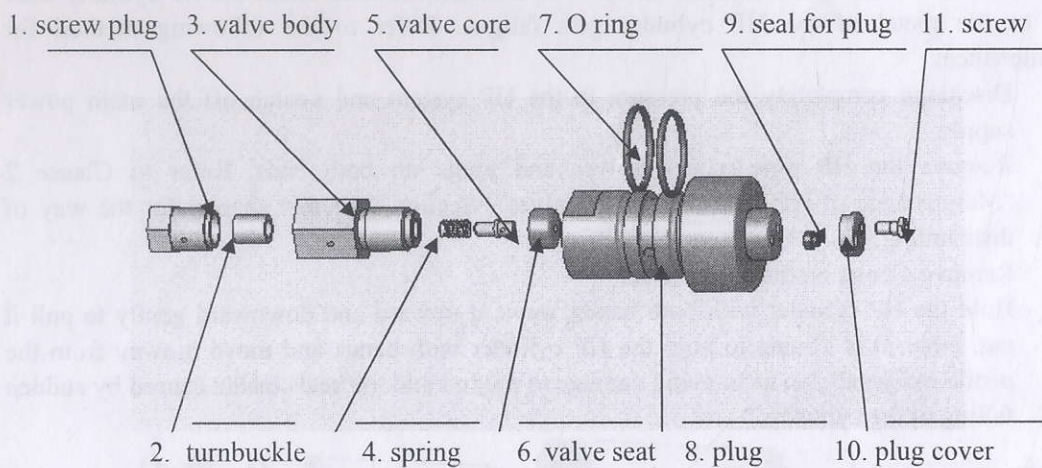

Fig. 3 - Exploded Diagram of Components of Check Valve
with reference to the following procedure: first, relief completely the pressure in the HP pipeline; disconnect the HP pipe to the check valve (take off Part 1 while disconnect the other end of HP pipe at the same time), and then remove Parts 3, 4, 5 and 6 in order; hold Part 6 (valve seat) on a small bench drill with the right side facing downwards (as per the direction indicated in Fig 3); place a flat plate (or a piece of glass) with the same height onto the working platform of the bench drill with a mesh #600 metallopatternic abrasive paper on the top; run the drill to lap the valve seat surface to be smooth; lap the surface of Part 6 (valve seat) to be smooth following a path of "8" shape with a mesh #600 metallopatternic abrasive paper; clean the parts, apply Blue Goop on the threads, and assemble the valve according to the sequence. At the point, the inspection and repair of a HP check valve is fully carried out and the valve could be put into trial operation (pay attention that after starting up the machine, the HP pipe connected to one side of the check valve should be loosened a little bit and then retighten after discharging the air away). If the pressure is OK after start-up, it means the problem is solved. If not, it means the problem lies in the LP check valve. After finding out the faulty LP check valve, dismantle it with reference to the following procedure: 1) follow the procedure of HP check valve dismantling; 2) loosen the 4 nuts connecting the HP cylinder, take off the end covers, shake Part 8 (plug body) so as to take it out; loosen Part 11 (screw), take away Part 9 (plug seal); lap the surfaces of Parts 8 and 9 manually with the same method mentioned above until the surfaces of both parts are smooth; 3) check if the O-rings are damaged. Replace them if necessary; 4) clean the parts, apply Blue Goop on the threads, and assemble the valve according to the sequence. {Note: When tightening the 4 big nuts, please evenly tighten the nuts crosswise so as to prevent the HP cylinder from inclining due to its own weight. Special attention should be paid during assembling. Special methods and skills shall be mastered!}; 5) start up the machine. When starting up, the HP pipe connected to one side of the check valve should be loosened a little bit and then retighten after discharging air away; 6) After the big bolts of the HP cylinder are installed and the machine operates for a few hours, it is necessary to check the tightness of the nuts once dismantled, so as to ensure that the bolts are tightened with the same torque.
- ix) The same as Fig 3;